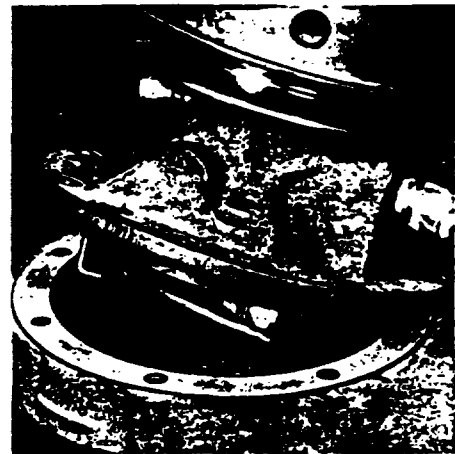

Figure 2-337. Positioning Housing Cover
21. Position housing cover assembly over housing. See Figure 2-337.